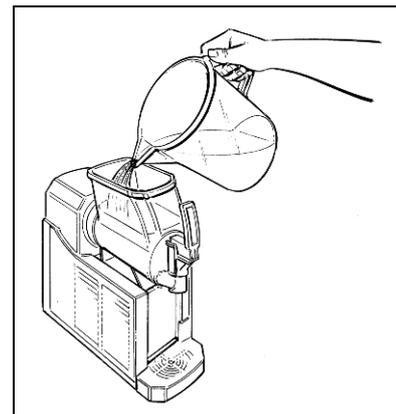

Fig. 11
- Pour lukewarm water into the bowl (fig.11) and, after re-positioning the cover, make the scraper auger rotating for some minutes (all LED switched off).